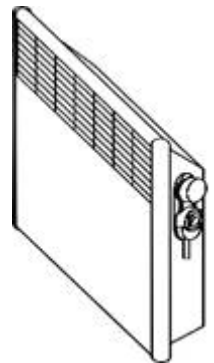

Fig. 5
5.7 Turn the switch key to the off position "0", set the thermostat knob to the "☼" position (connect the "☼" sign on the knob with the mark on the control unit). The convector is ready for operation (the location of the convector controls is shown in Fig. 5).